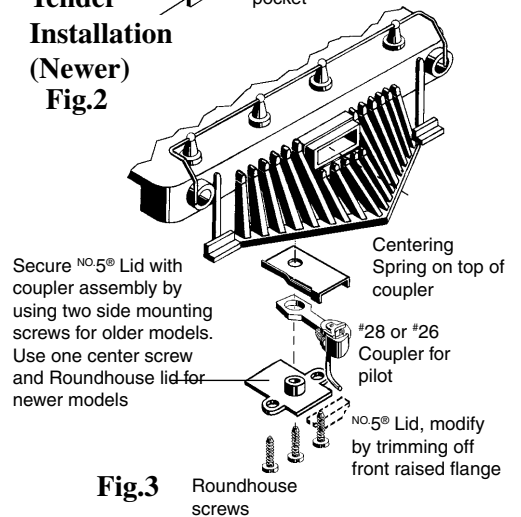

Fig.3
10. For side by side screw mounting with no centerpost: Modify the NO.5® Draft Gear Box Lid (included with 20-Series Couplers) by cutting off top front flange. Assemble the #28 or #26 Coupler with Centering Spring on top over hub of NO.5® lid. Place the coupler assembly with lid into Roundhouse coupler pocket and secure with screws, see Fig.3.
11. For single screw with centerpost mounting: Use the Roundhouse coupler pocket lid. Assemble the #28 or #26 Coupler with Centering Spring on top over centerpost of the coupler pocket. Place the lid on the Roundhouse coupler pocket and secure with screw, see Fig.3.